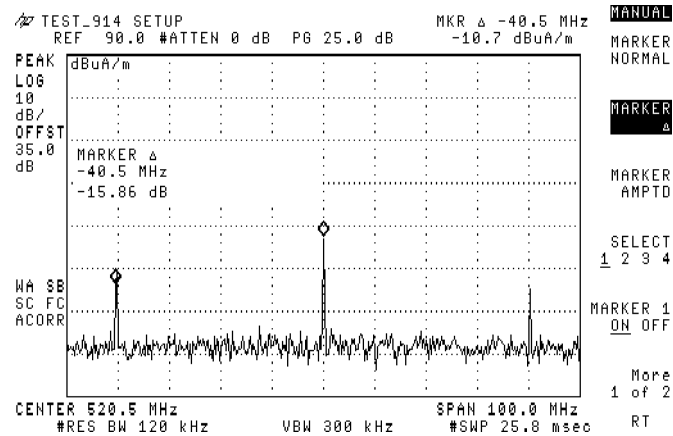

Figure 3-9. Measuring the Harmonic Interval
41. Measure the harmonic interval using the marker delta function and scroll to the next peak of interest. Record the interval. See Figure 3-9.